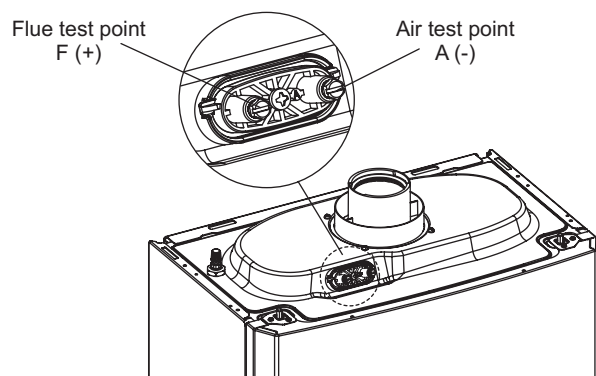

Fig. 5.3
1. Remove the pressure test point caps at the top of the boiler and connect a digital differential pressure gauge across the positive (F+) and negative (A-) pressure connections, see Fig. 5.3.